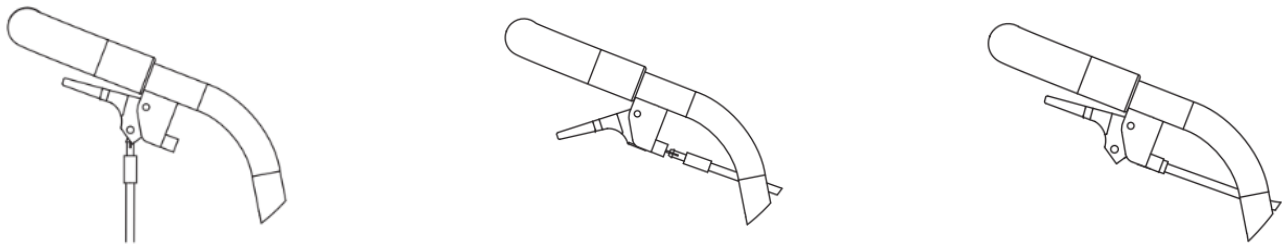

Figure 10.36: *Installing the cable*
7. Feed the cable through to the front of the trigger place (see Figure 10.36).